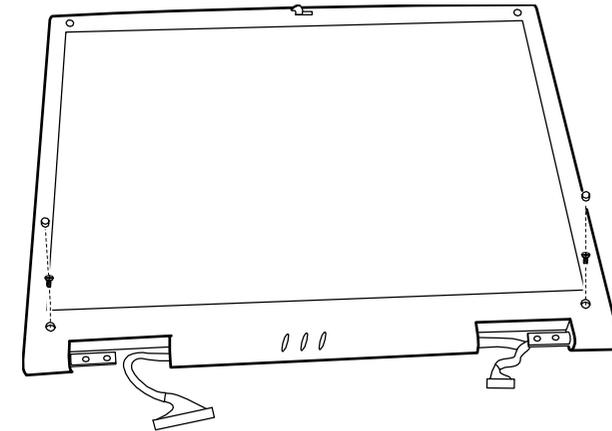

Figure 5-25. Removing the LCD Frame
2. Fit the LCD frame back to the housing. Replace the two screws and two rubber pads. (Refer to Figure 5-25 earlier.)